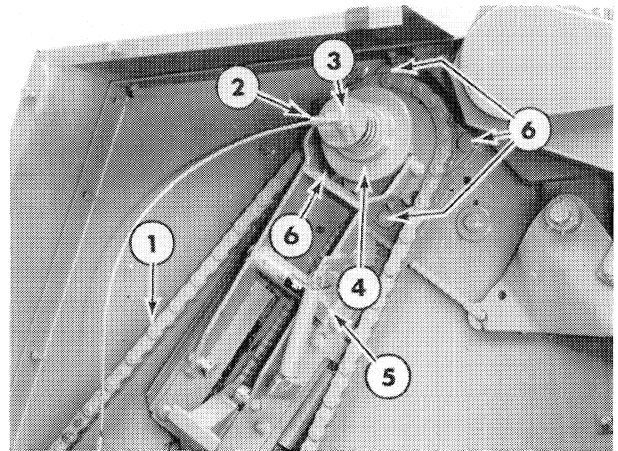

Figure 7-15
2. Loosen and remove drive chain, 1, Figure 7-15. Disconnect the grease line at 2 and remove cap screw, 3, securing the end cap and spring. Remove outer clutch half, 4, from the roll shaft. Remove the snap ring and washer from the shaft.